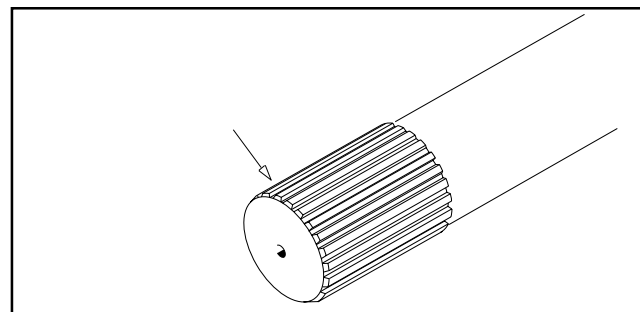

Figure 6
1. Inspect camshaft spline and body for chips and excessive deformation. Replace as necessary. See Figure 6.